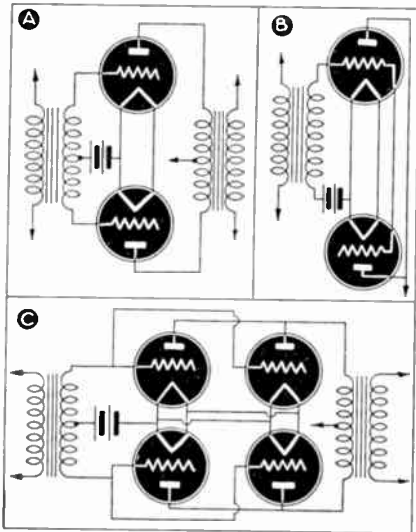

Fig. 16
(A) We are showing two circuits, in Figs. 16 and 18, which may be what you desire.